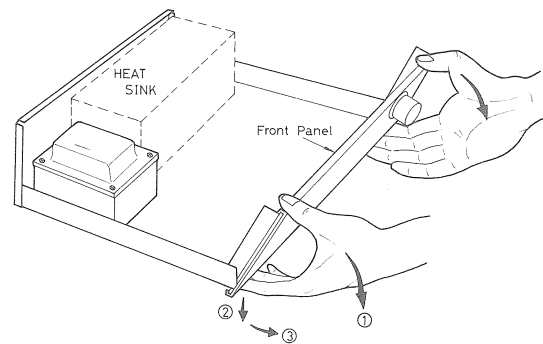

Fig. 5
9. As shown in fig. 5, hold the panel at its side ends and push it downward tilting slightly its top part to the frontward direction.